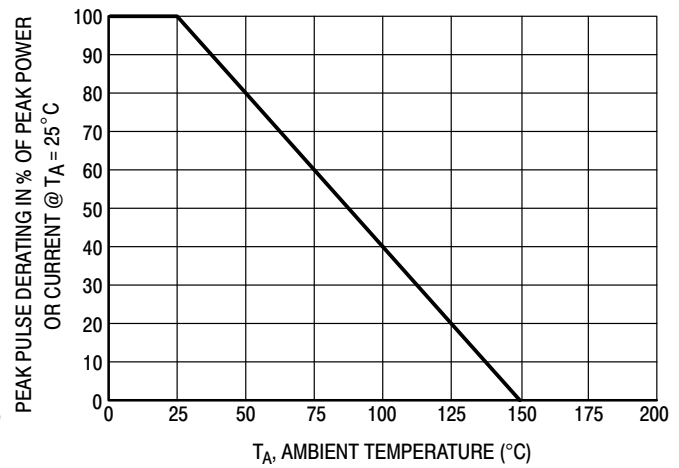
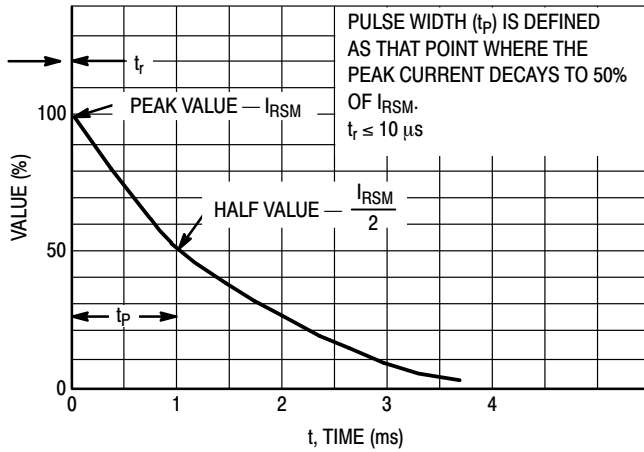
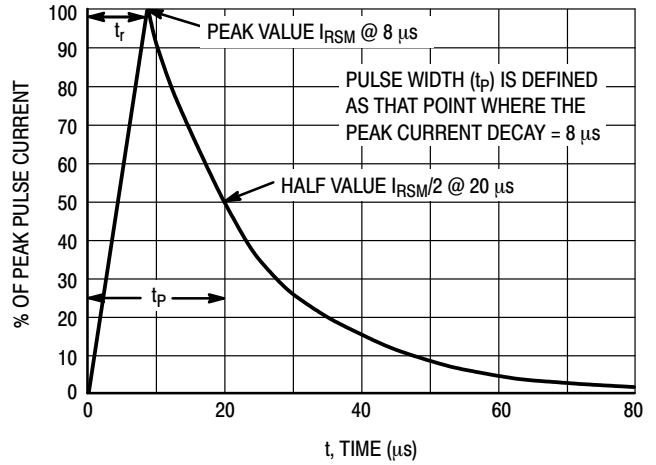

Figure 4. Pulse Derating Curve
Figure 5. $10 \times 1000 \mu\text{s}$ Pulse Waveform
Figure 6. $8 \times 20 \mu\text{s}$ Pulse Waveform
- Peak Power-Min. 24 W @ 1.0 ms (Unidirectional), per Figure 5 Waveform
- Peak Power-Min. 150 W @ 20 μs (Unidirectional), per Figure 6 Waveform
1. Non-repetitive current pulse per Figure 5 and derate above $T_A = 25^\circ\text{C}$ per Figure 4.
2. Non-repetitive current pulse per Figure 6 and derate above $T_A = 25^\circ\text{C}$ per Figure 4.
8. Surge current waveform per Figure 5 and derate per Figure 4.